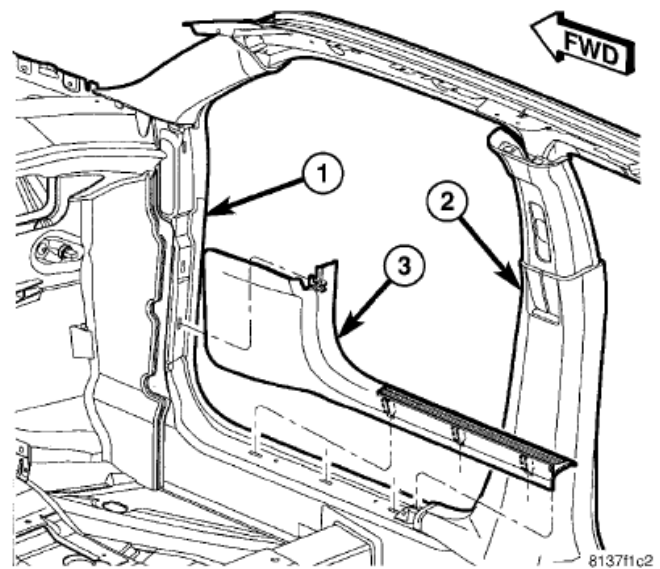

Fig. 2 Sill Trim (3)
3. Using a trim stick or another suitable wide flatbladed tool and starting nearest the B-pillar trim (2) (Fig. 2), carefully pry the **LEFT SIDE** sill trim (3) upward from the front door opening sill far enough to disengage the three spring clip retainers that secure the trim to the slots in the sill.
2. Position the vertical portion of the sill trim (3) to the cowl (1) at the front of the front door opening (Fig. 2).
3. Align the spring clip retainer on the trim with the slot in the cowl (1).
5. Position the horizontal portion of the sill trim to the front door sill and the B-pillar trim (2) (Fig. 2).